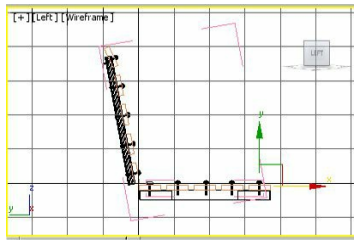

Figure 2-92 *Alignment of right side seat rivets in the Left viewport*
12. Choose the **Select and Move** tool and align all rivets of *right side seat rivets* group with *horizontal seat support*, as shown in Figure 2-92.